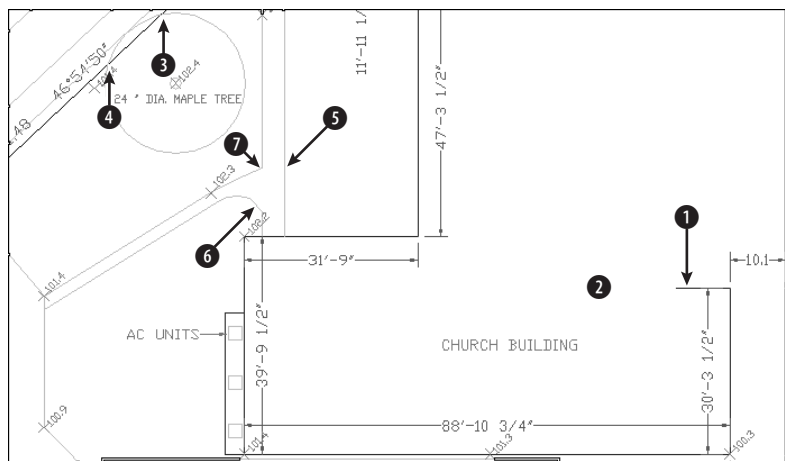

Figure 10-27: A site plan
2. Save the file as ab10-09.dwg in your AutoCAD Bible folder. This is a site plan, as shown in Figure 10-27. Turn on OSNAP and set running object snaps for endpoint and intersection.
3.  Choose Break from the Modify toolbar. At the Select object: prompt, pick the line at ❶. At the Specify second break point or [First point]: prompt, pick ❷. AutoCAD shortens the line.
4. Repeat the BREAK command. At the Select object: prompt, pick the circle (it's a maple tree) anywhere along its circumference. At the Specify second break point or [First point]: prompt, right-click and choose First point. At the Specify first break point: prompt, pick the intersection at ❸. At the Specify second break point: prompt, pick the intersection at ❹. AutoCAD breaks the circle.